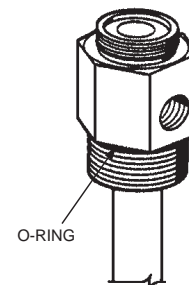

FIGURE 7-1
- b. Clean and coat o-ring with a good grade of extreme temperature grease and reinstall into adaptor groove. See Figure 7-1.